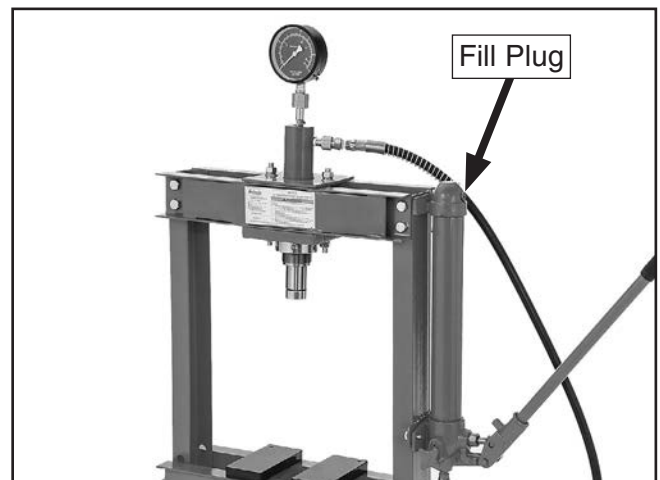

Figure 26. Fill plug location.
2. With the press completely retracted in the uppermost position, use a #2 Phillips head screwdriver to remove the fill plug shown in **Figure 26**, and fill the pump reservoir with any standard hydraulic oil until it runs from the port. Re-install the fill plug.